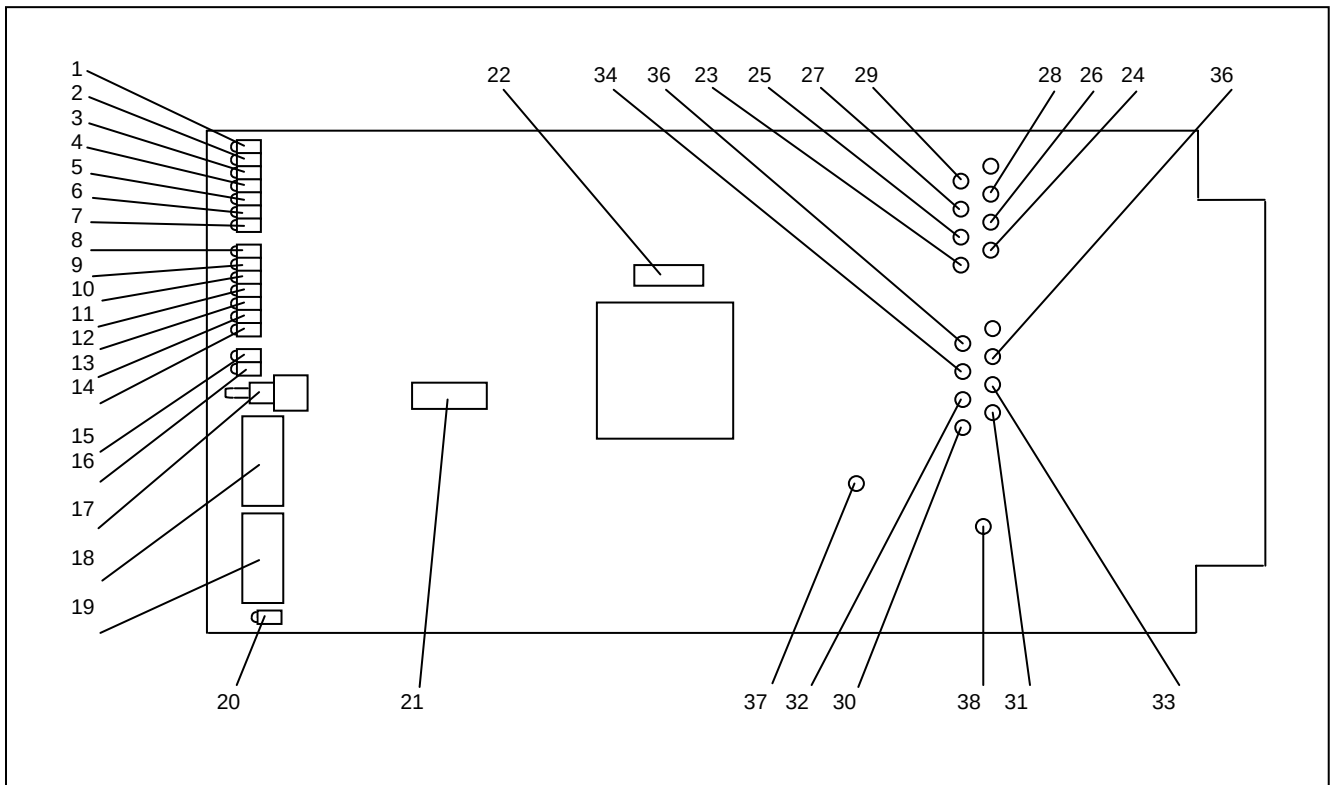

Figure 2. Controls and indicators, RFL DA-121I Asynchronous Data Channel Module
13. Check the CH1 Transmit and CH1 Receive activity LEDs on the front panel of the DA-91I module. See Figure 2 and Table 1 for locations.
4. Refer to Figure 2 and Table 1 for the location of DIP switches on the DA-121I module.